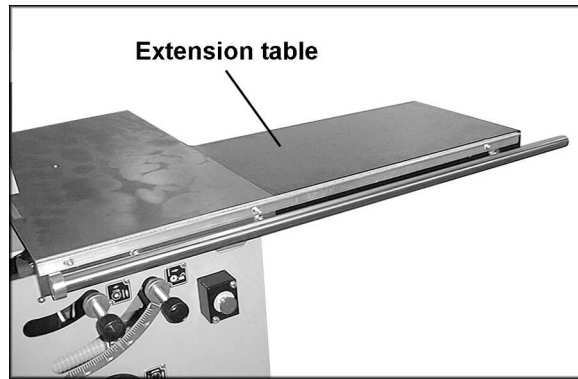

Figure 5
1. Mount the right extension tables to the edge of the cast iron table (Figure 5) with two M8 x 25 cap screws and two M8 flat washers. Do not tighten yet.